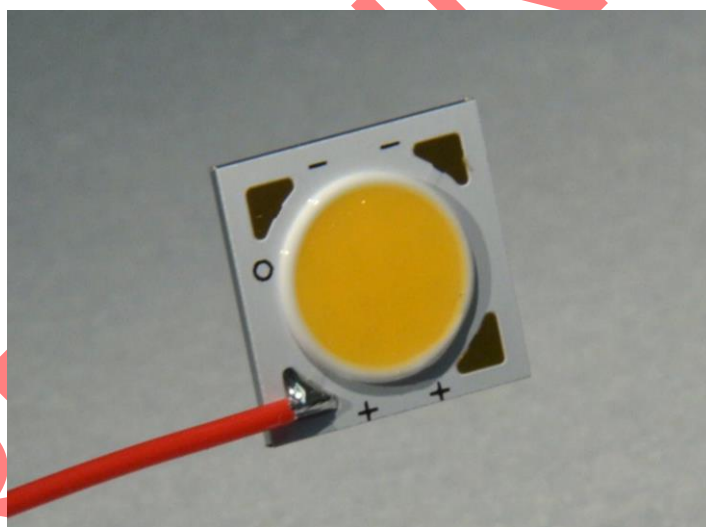

Figure 5: Pre-tin solder pads
- B. Apply solder to the solder pad and solder tip, allowing sufficient time for the solder to wet. The solder should form a small dome shape on the solder pad (see Figure 5).